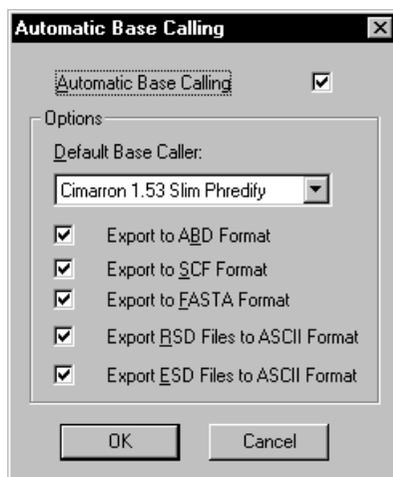

Figure 3-8. The Automatic Base Calling window.
1. Choose **Automatic Base Calling** from the Configure menu. The Automatic Base Calling window appears (figure 3-8).